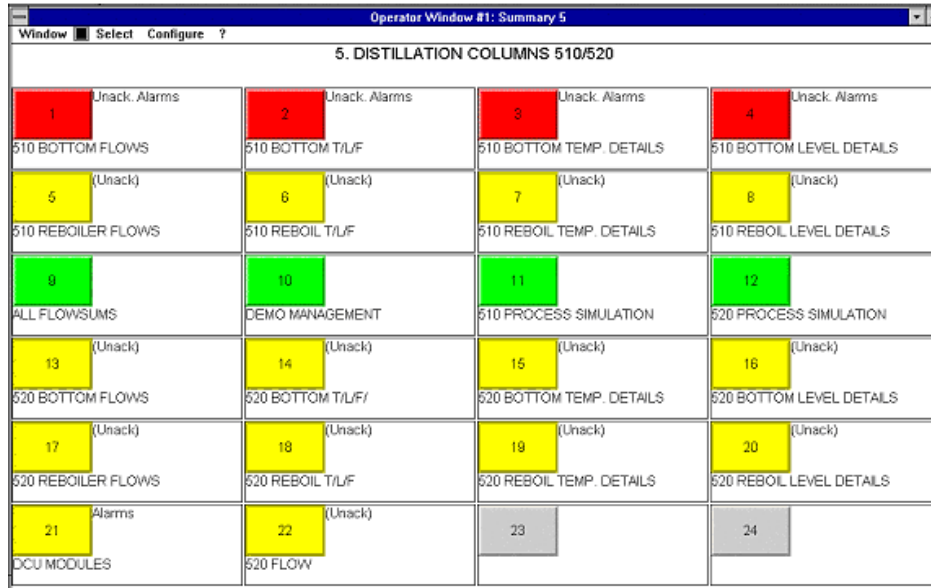

Figure 1. Summary Display
**Plant Summary Display:** provides an overview of 24 groups arranged in a 4x6 Matrix (Figure 1). Each Summary display includes a legend of up to 48 characters. Each of the 24 groups on the Matrix is identified by a configurable group name and provides an instant color-coded status condition with a text description.